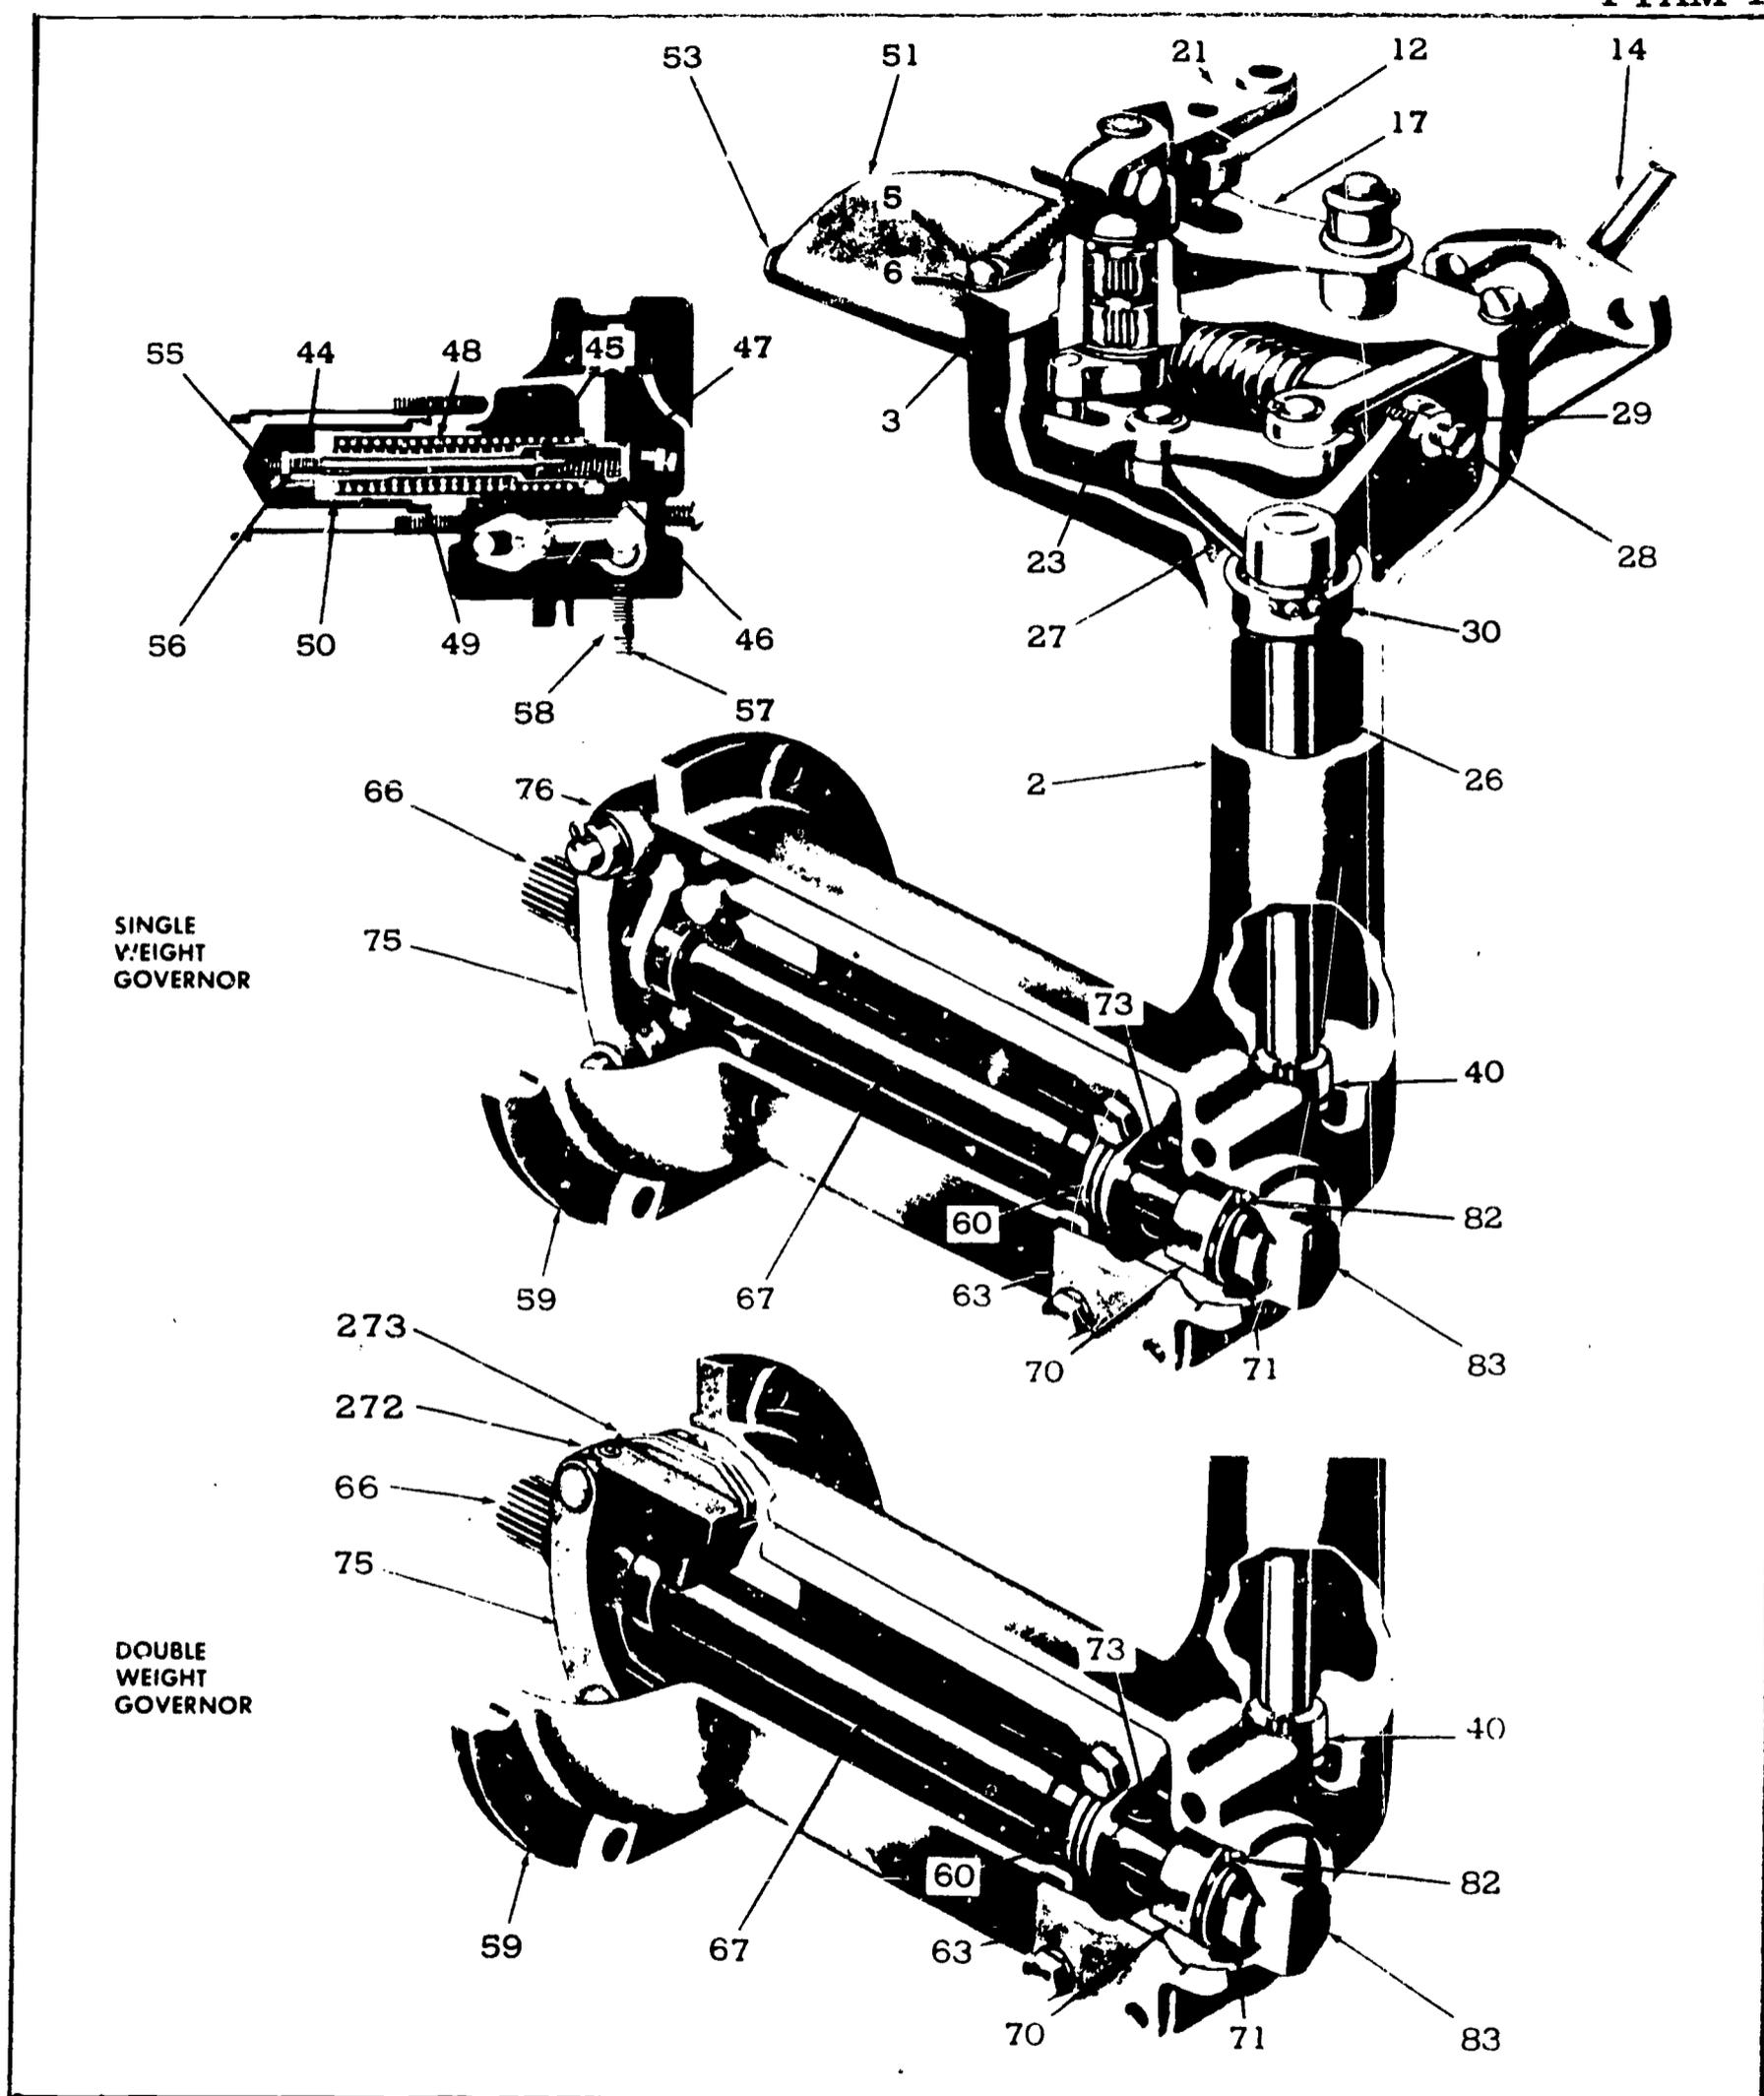

Fig. 3 Limiting speed mechanical governors (Series 71).
SINGLE WEIGHT GOVERNOR IN-LINE 71 -- The centrifugal force of the revolving governor weights (76), see Figure 3, is converted into linear motion which is transmitted through the riser (67) and operating shaft (26) to the operating shaft lever (27). One end of lever (27) operates against the high and low speed springs (48 and 46) through the spring cap (47), while the other end provides a moving fulcrum on which the differential lever (23) pivots.
DOUBLE WEIGHT GOVERNOR -- IN-LINE 71 AND V-71 SERIES -- The centrifugal force of the revolving governor weights (272 and 273), see Figure 3, is converted into linear motion which is transmitted through the riser (67) and operating shaft (26) to the operating shaft lever (27). One end of lever (27) operates against the high and low-speed springs (48 and 46) through the spring cap (47), while the other end provides a moving fulcrum on which the differential lever (23) pivots.